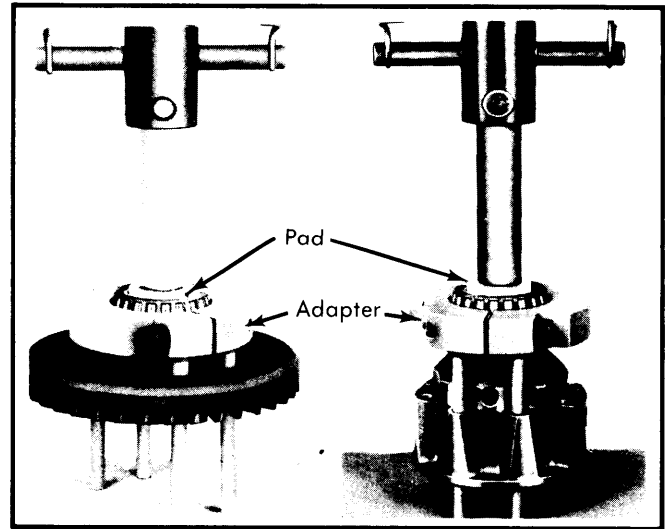

Fig. 11 Removing Differential Side Bearing
5) To disassemble differential, remove bolts which hold differential housing to ring gear. Place adapter C over differential shaft. Insert 4 extractor clamp support rods (H3) into 4 diagonally opposed holes of ring gear. Place adapter H1 around bearing. See Fig. 11. Tighten Allen screws on adapter plate to 14.5 ft. lbs. (2.0 mkg).